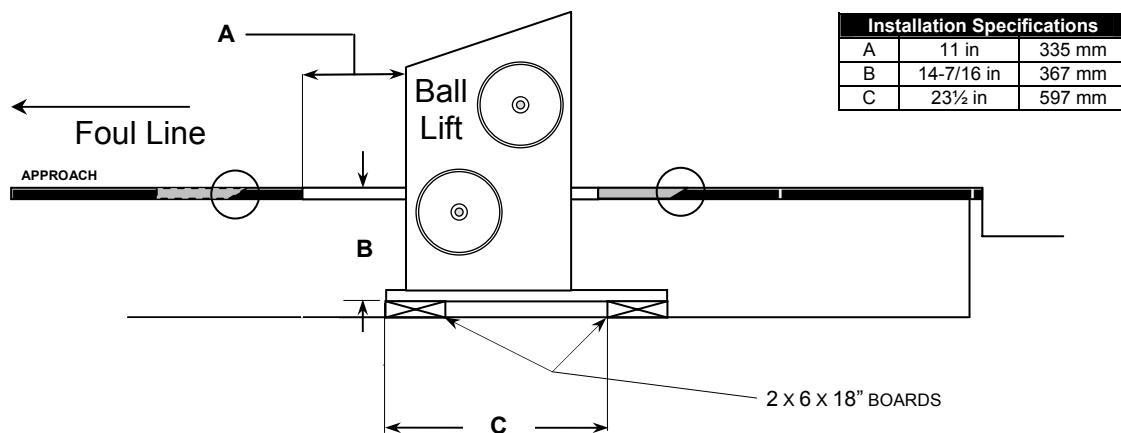

Figure 3, Ball Lift Installation – Side View
- When installing the Ball Lift on wood approaches, for the front and rear trap door cutouts (E and F on Figure 2), make angled cuts to provide a “lip” for the pieces to rest upon the subfloor structure to keep them in place, as shown in Figure 3. For the Ball Lift cutout, make straight cuts.
- Place the other 2 x 6 x 18-inch board on the subfloor parallel to the first board with its front edge 23.5 inches (597 mm) from the first board’s front edge (see Figure 3).